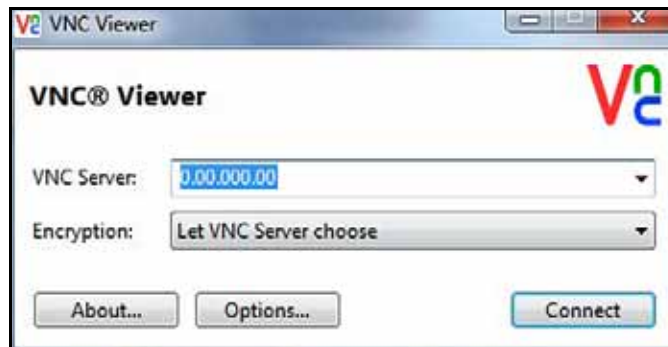

Figure 66: VNC Viewer Screen
5. From the PC, go to the RealVNC web site and download the *VNC Viewer*. Then, launch the *VNC Viewer* and enter the recorded moisture.IQ *IP Address* when prompted (see Figure 66 below). Click the *Connect* button.